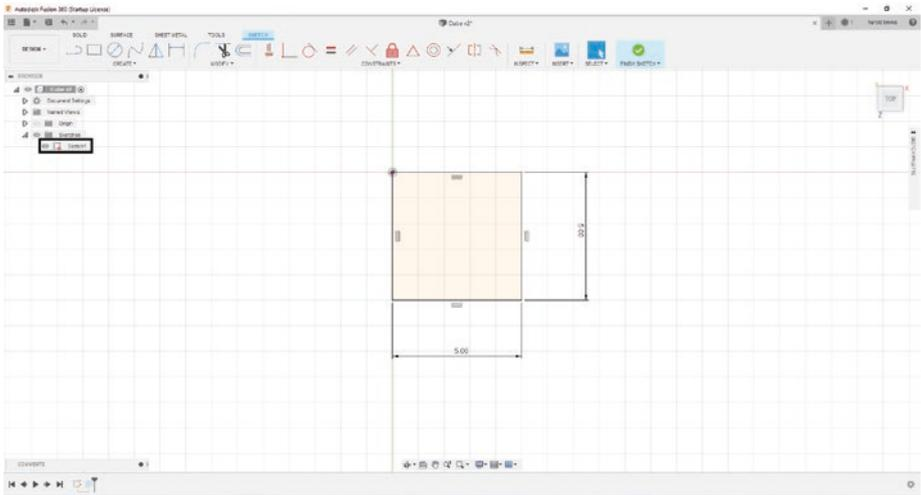

Figure 3-54. Select Sketch1
3. Go to the Browser menu and go to the folder Sketches and double-click Sketch1. This will take you to the Sketch view, and you can start to modify your sketch. See Figure 3-54.